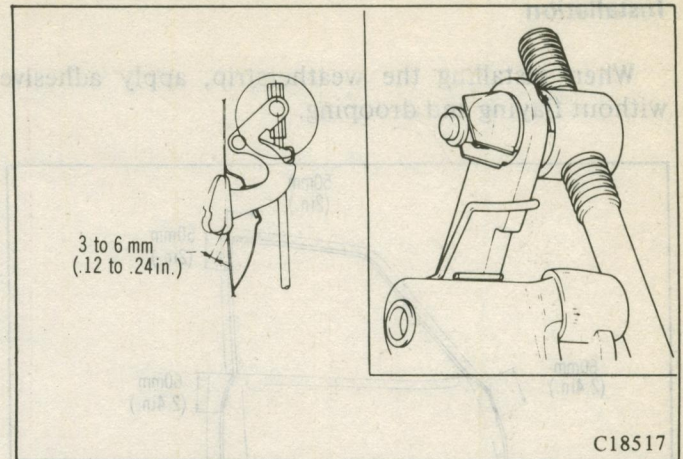

Fig. 68 Adjusting the Outer Handle
- (2) Adjust the outer handle play to the standard value by means of the handle-side joint. (Fig. 68)